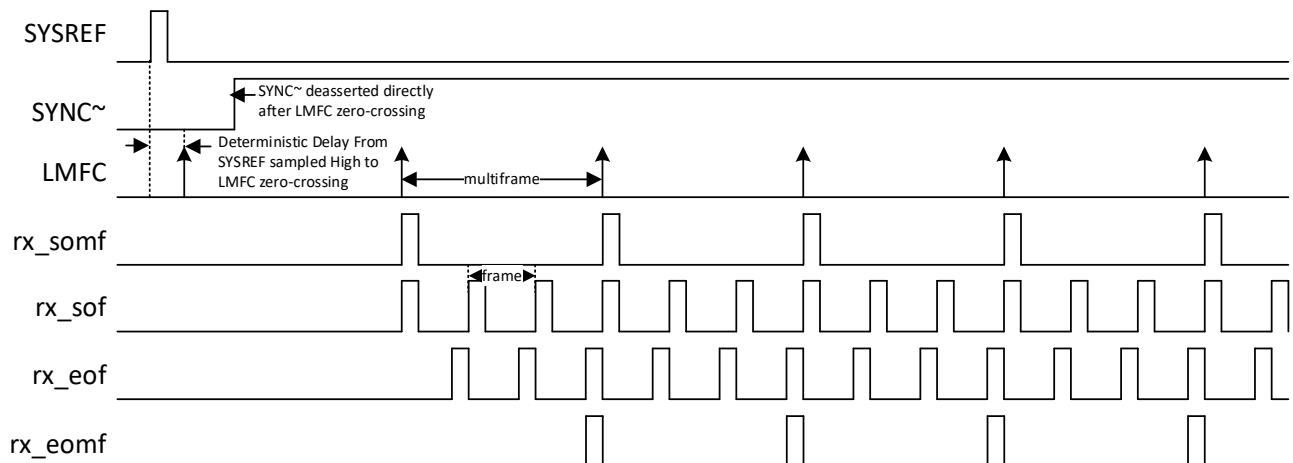

Figure 2.3. Timing Diagram Illustration for LMFC and Rx Frames Interface
Figure 2.3 illustrates the LMFC correlation with Rx data frame. SOF to EOF indicates the number of octets per frame (F) while SOMF to EOMF indicates the number of frames per multiframe (K) and number of octets per multiframe (F × K). SOMF is aligned with the LMFC arrow as illustrated in Figure 2.3.